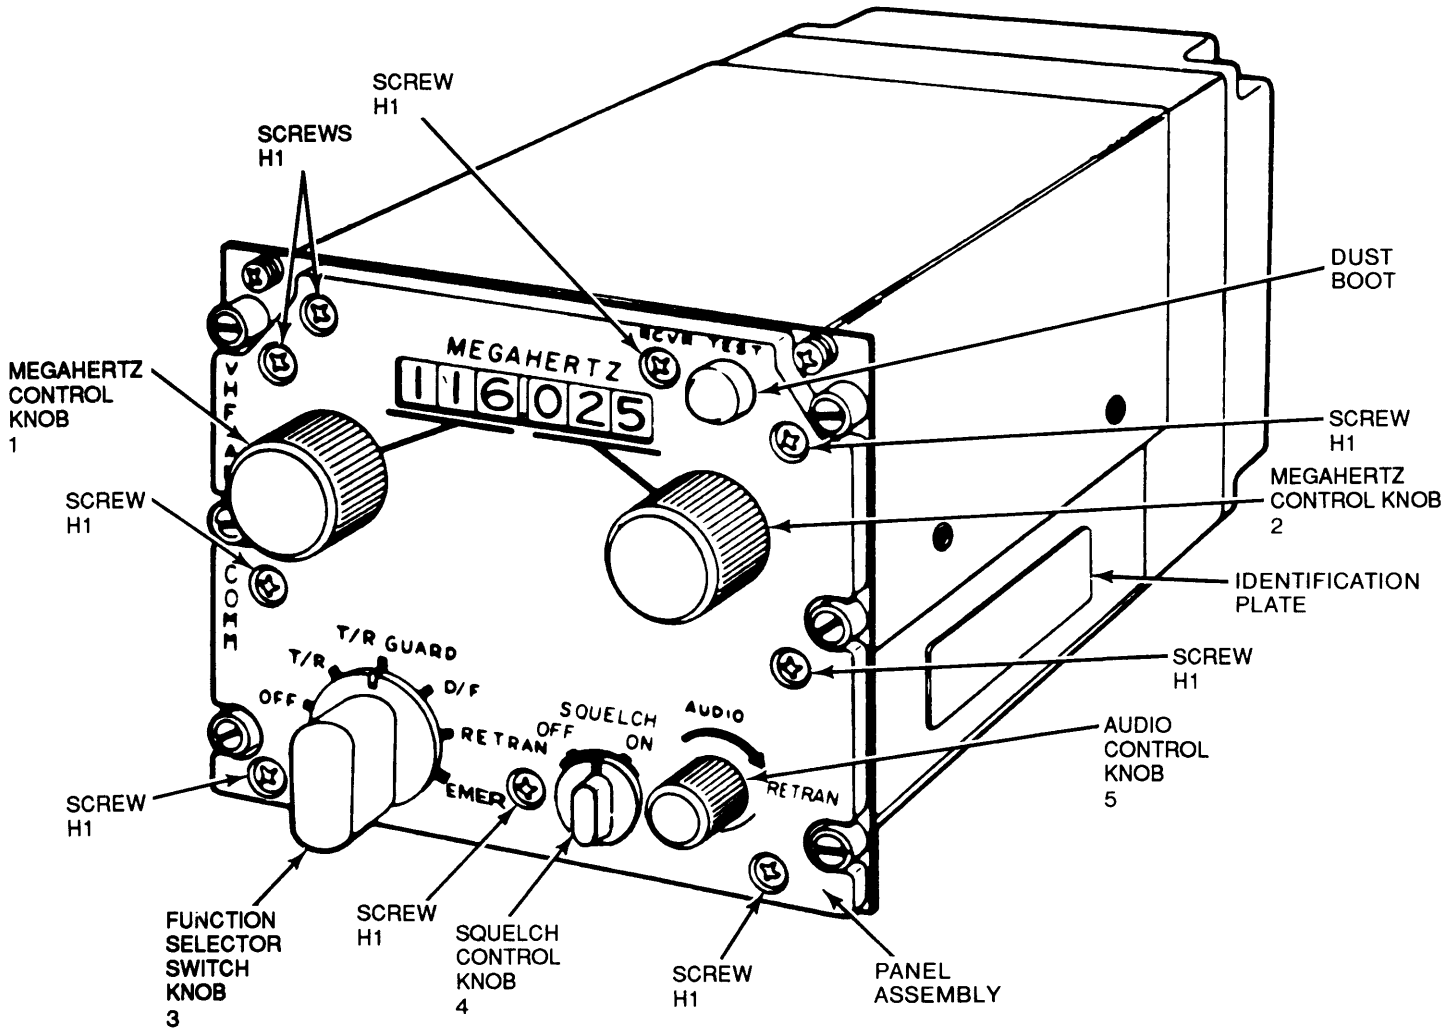

Figure 1. Location of Front Panel Controls and Attaching Hardware
- (1) Loosen two setscrews in each of the following control knobs. Remove knobs from their respective control shafts (see figure 1).
- (c) The function selector switch knob (item 3)
- (d) SQUELCH control knob (item 4)
- (e) AUDIO control knob (item 5)
- (2) Remove nine screws and lockwashers (H1, figure 1) from the panel assembly. Set screws and lockwashers aside for reuse during reassembly of the end item.
- (3) Carefully remove indicating panel from radio set chassis to expose wiring.
- (4) Unsolder the green wire from the terminal stud on the rear surface of the panel assembly.
- (5) Unsolder the white wire from the terminal stud on the rear surface of the panel assembly.
- (6) Remove the panel assembly from the radio set.
- (7) Remove the RCVR TEST dust boot from the panel and set aside for reuse during assembly of the end item.
- (8) Set the panel assembly aside for return to the Depot for disposition.
- (9) Install RCVR TEST dust boot through the opening in the new ANVIS panel assembly. Ensure dust boot is properly seated at the rear of the panel.
- (10) Place new ANVIS panel assembly in close proximity to front of radio set to allow resoldering of the wires.
- (11) Solder one of the wires (green or white) to terminal stud E2 on rear surface of the ANVIS panel assembly.
- (12) Solder the other wire to terminal stud E1 on the rear surface of the ANVIS panel assembly.
- (13) Carefully place or push both wires into the chassis recess as the ANVIS panel assembly is placed on the front chassis of the radio set.
- (14) Install the new ANVIS panel assembly to the radio set using nine screws and lockwashers (H1, figure 1). Replace any missing or damaged screws or lockwashers.
- (15) Install knobs onto the following controls using two setscrews for each knob. Refer to figure 1.